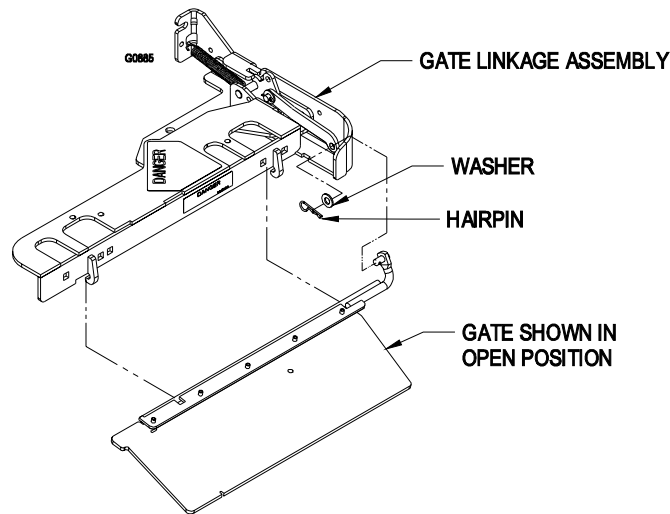

FIGURE 10
3.2.11 Hook the gate assembly (item16) to the gate linkage assembly (item 12). Install the washer (item15) and fasten with the hairpin (item 14) as shown in Figure 10.